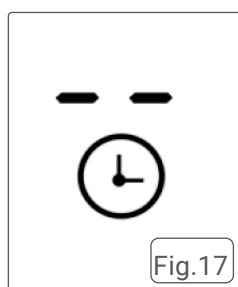

Fig.17
7. When the set time has elapsed, the buzzer will sound for 30 seconds, and the timer indicator will display "- -". Fig.17